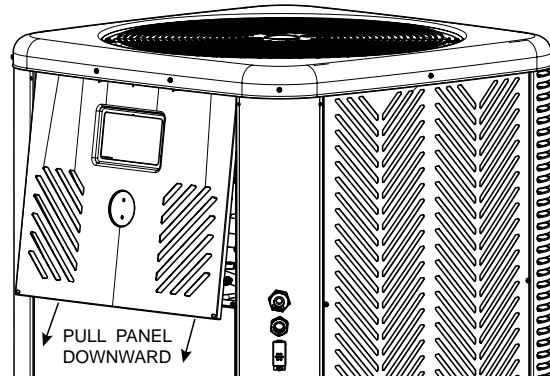
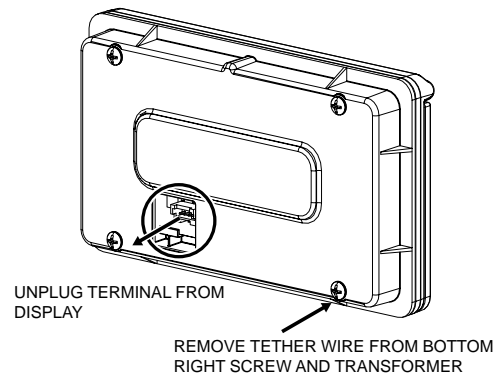

Figure 126. Detach Front Panel
Figure 127. Remove Wiring from Display
3. To remove the front panel, pull the bottom of the panel downward and outward, and then disconnect the wire attached to the rear of the user interface. The panel should now be free for removal. See Figure 126 and Figure 127.